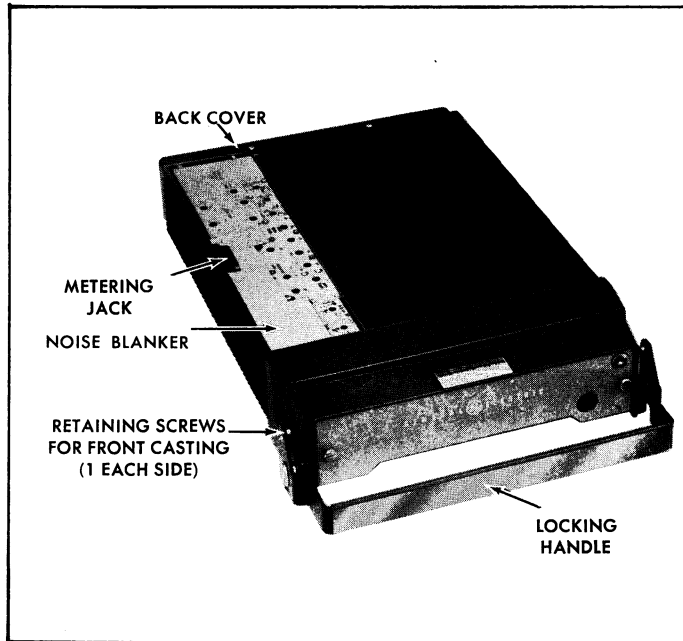

Figure 2 - Removing Top Cover
1. Loosen the two Phillips-head retaining screws in from casting (see Figure 2), and pull casting away from system frame.